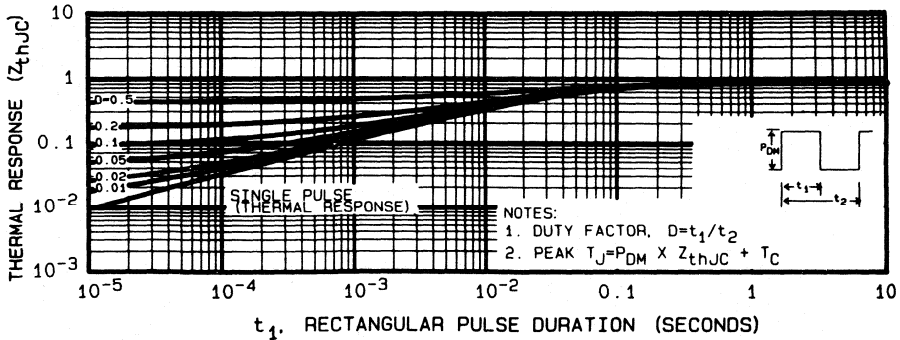

Fig. 5 - Maximum Effective Transient Thermal Impedance, Junction-to-Case Vs. Pulse Duration
2. Repetitive Rating: Pulse width limited by max. junction temperature. See Transient Thermal Impedance Curve (Figure 5)